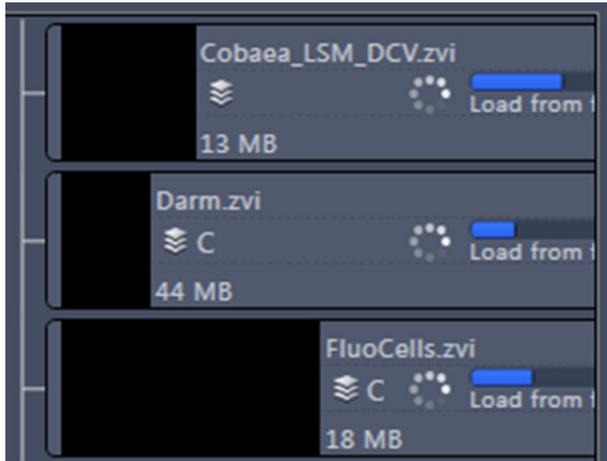

Fig. 279 Image progress bar
- A progress bar (Fig. 279) is shown for each image facilitating the overview if e.g. many processing functions are running at the same time.